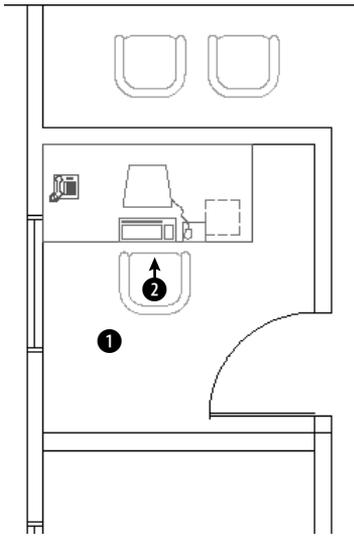

Figure 18-18: An office with a set of office furniture.
1. Open `ab18-g.dwg` from the CD-ROM. This is a plan of an office building zoomed in to one office. A file containing one set of office furniture has been inserted, as shown in Figure 18-18.
6. Click **Pick Point** to temporarily return to the drawing. Pick point ① in Figure 18-18. Leave the Text Options as they are. Click **OK** to end the command.